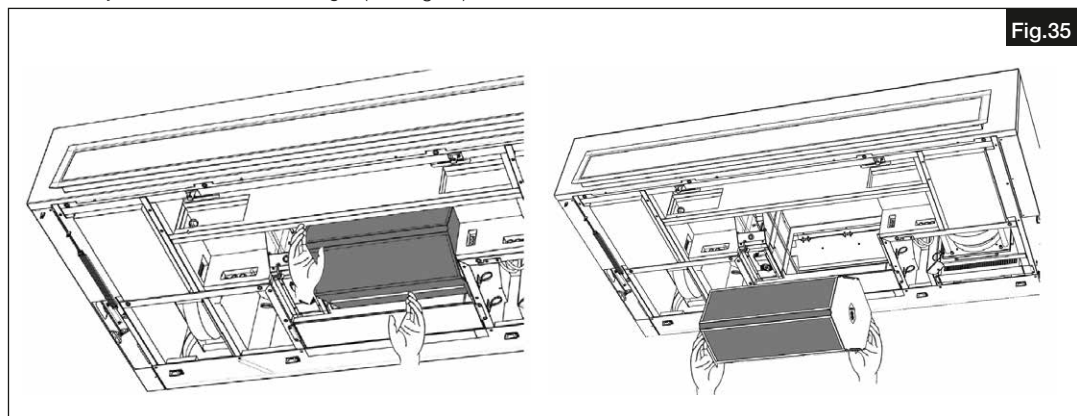

Fig.35
5. Carefully remove the heat exchanger (see Fig.35).